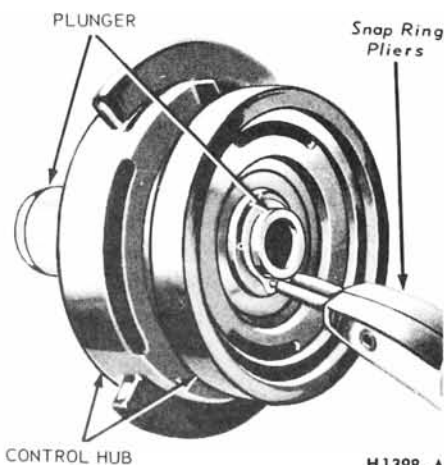

FIG. 26—Removing or Installing Plunger-to-Control Hub Retainer
7. Remove the retainer that holds the plunger to the control hub (Fig. 26). Separate the control hub and plunger assembly.
1. Assemble the control valve plunger assembly into the control hub so that the round holes in the rubber valve index with the raised projections on the hub, and the flat on the valve plate indexes with the flat projection on the hub (Fig. 28). Compress the valve spring, and install the retainer in the plunger groove to secure the control valve plunger to the control hub (Fig. 26).